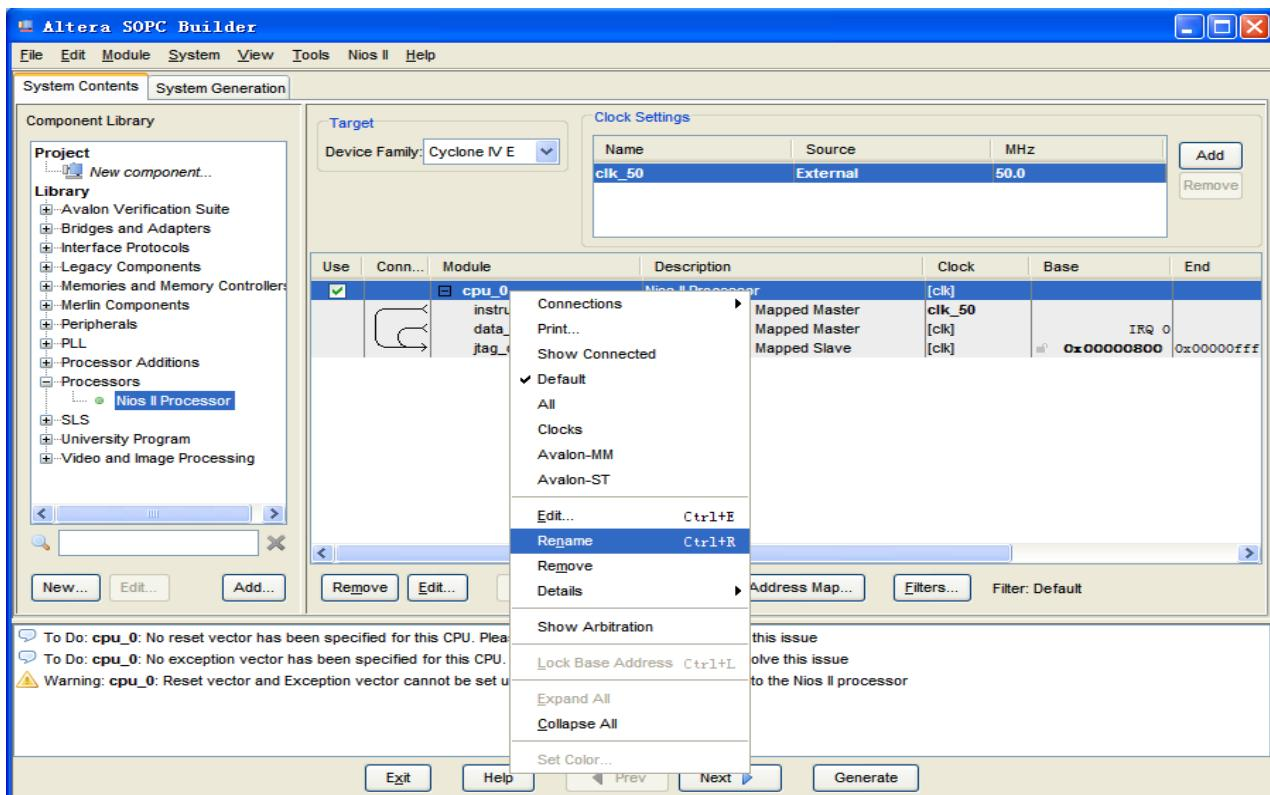

Figure 7-17 Rename the CPU (1)
10. Select the **cpu\_0** component and right-click then select rename, after this, you can update **cpu\_0** to **cpu**, as shown in **Figure 7-17** and **Figure 7-18**.